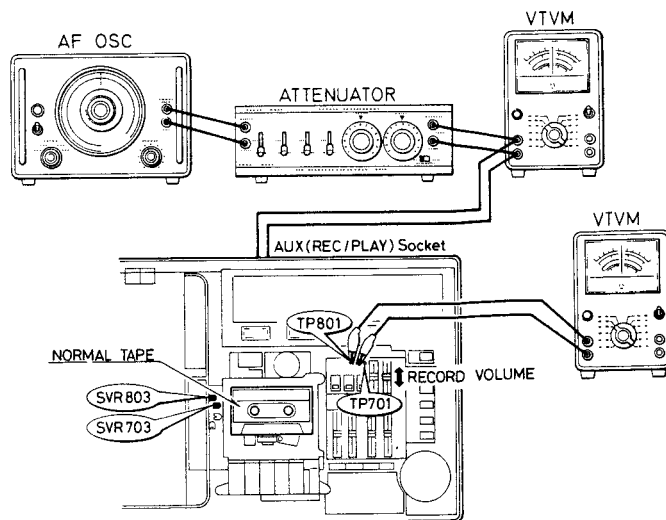

Fig. 22
- Apply 1kHz -10 dB (100mV) signals to AUX. (Fig. 22)